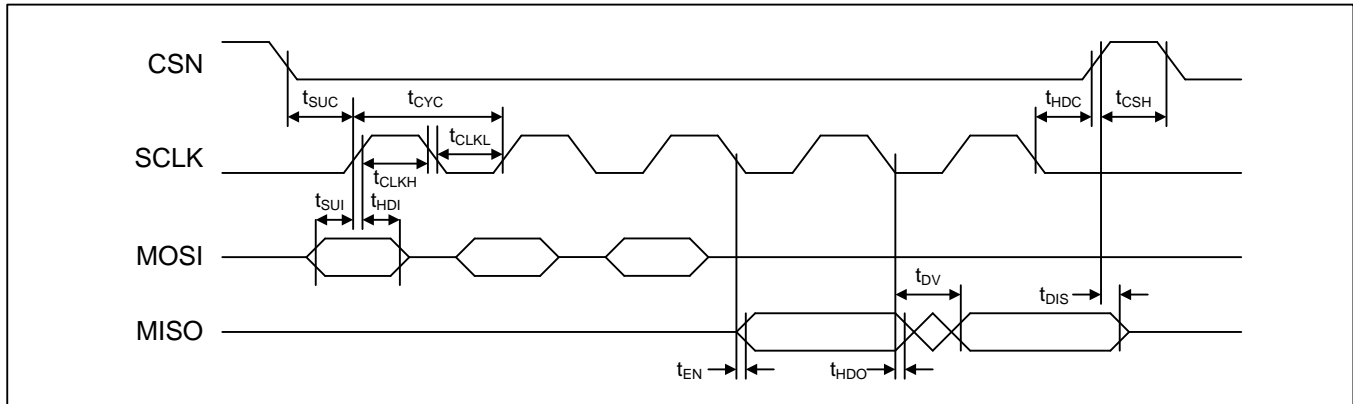

Figure 18 - SPI Slave Interface Timing
- Note 3:** See timing diagram in Figure 18.
Note 4: See timing diagram in Figure 18.